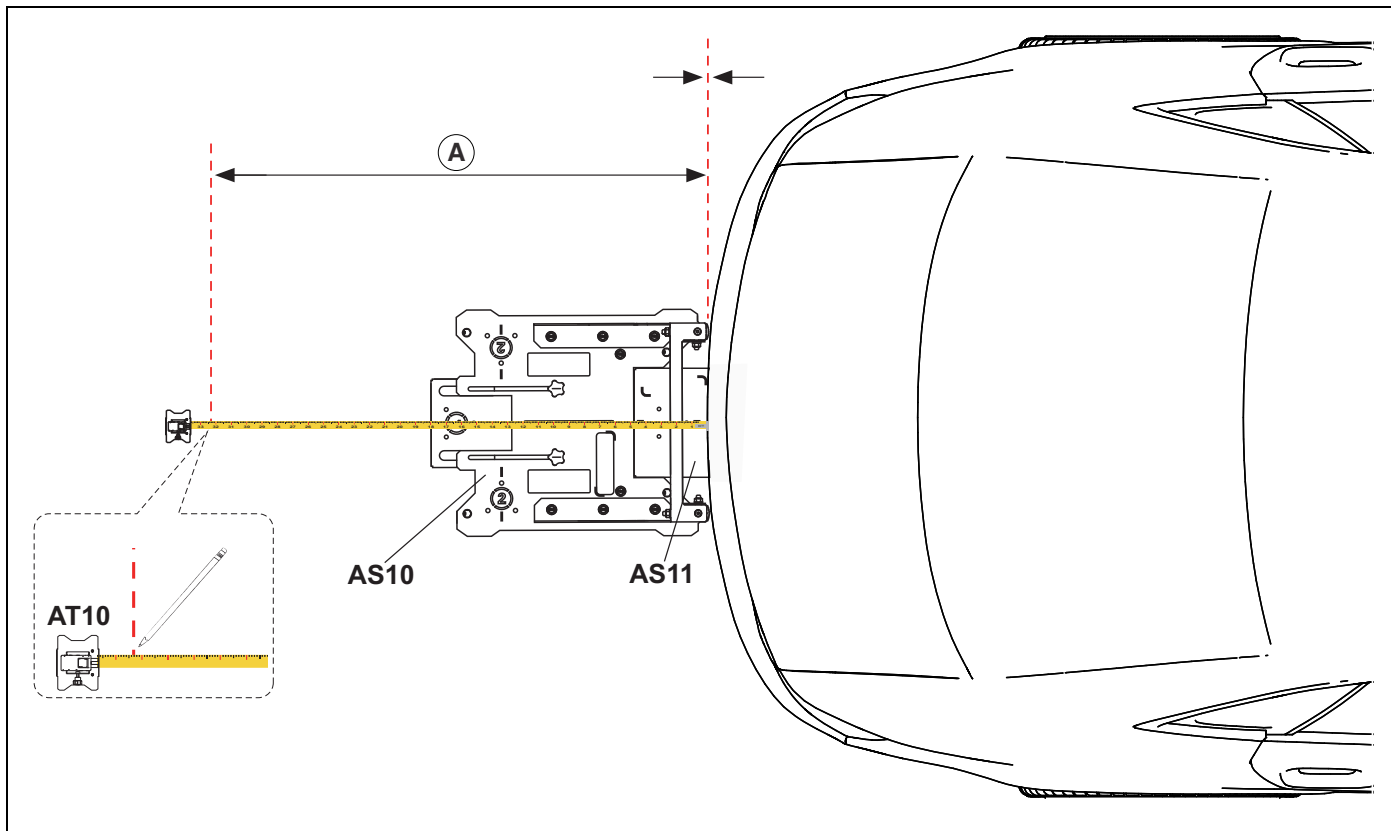

Figure 5-9
2. Remove the laser assembly from the AS10 fixture (Figure 5-9).
3. Using the tape rule, measure target distance “A” from the slot in the AS11 alignment plate, and make a mark on the floor at distance “A” (Figure 5-9). Use of AT10 stand is optional.